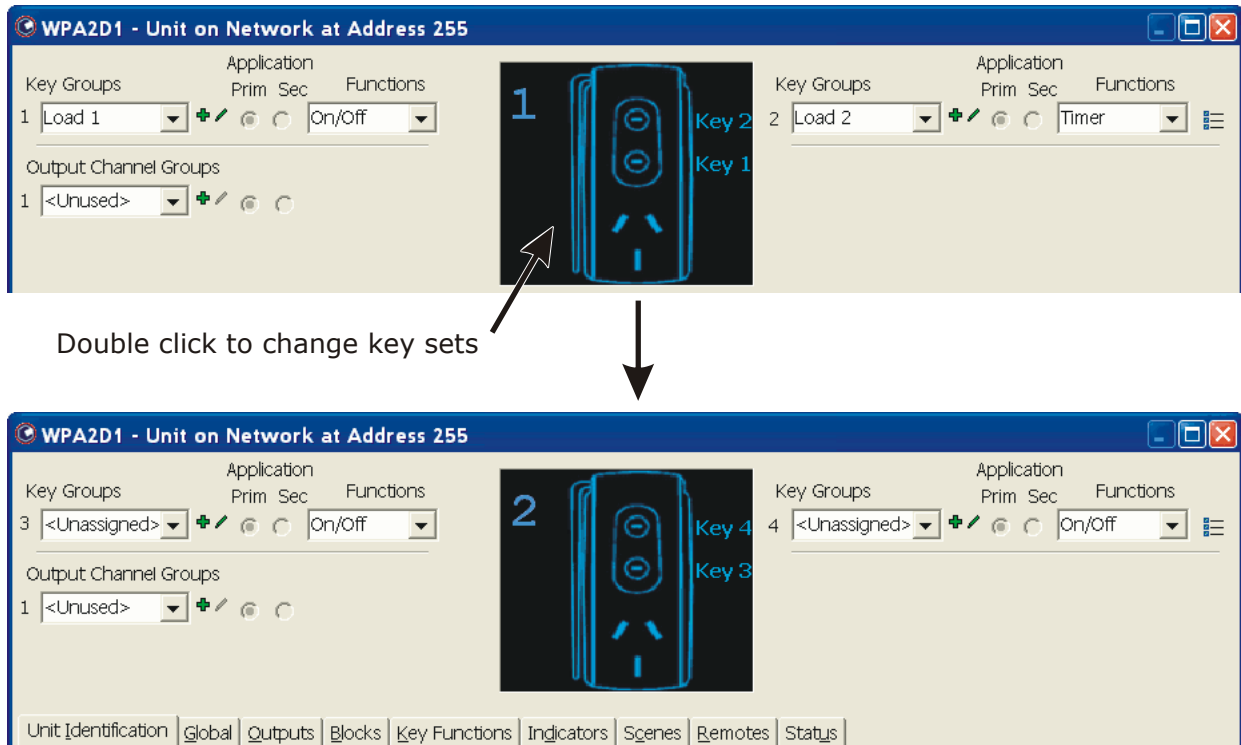

Figure 4 - Editing the plug adaptor. Double click the picture to change key sets
- 11) Select the next "key set" by double clicking the image of the plug adaptor (Figure 4). The number next to the image will increment. This provides access to more "virtual" buttons. There are four key sets in total, providing eight virtual buttons.